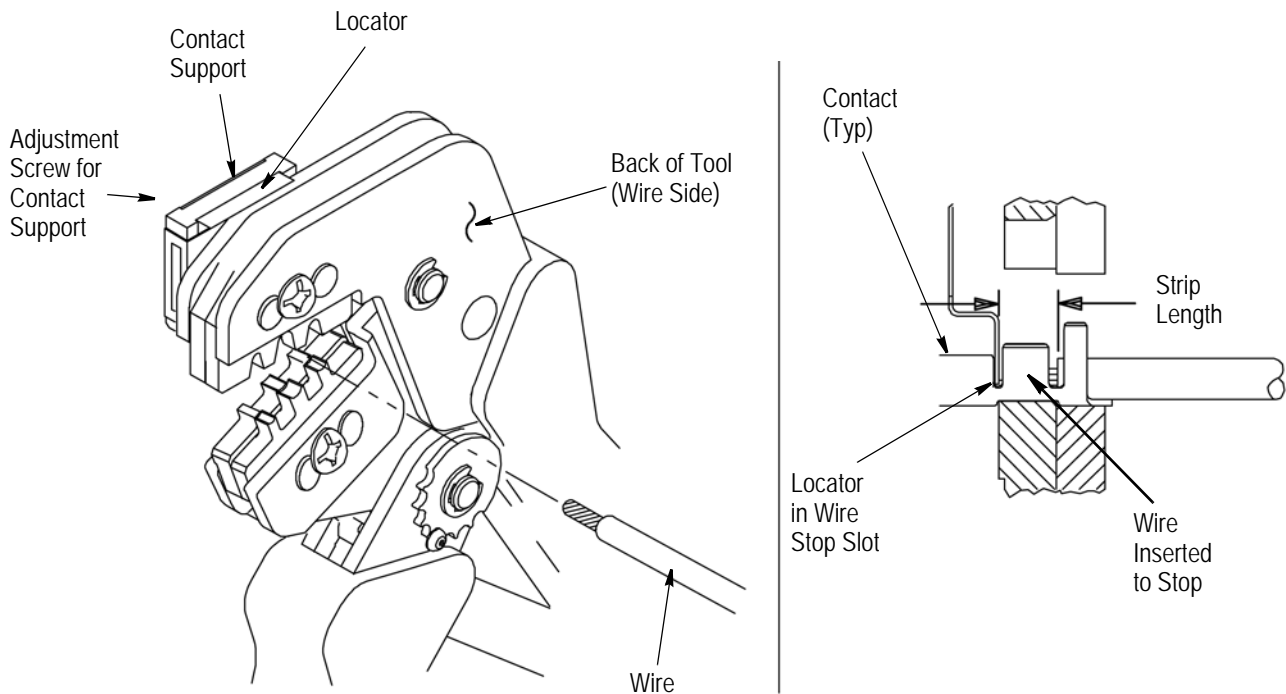

Figure 3
### 4. CONTACT SUPPORT ADJUSTMENT (Figure 3)
the length indicated in Figure 1, taking care not to nick or cut wire strands. Select an applicable contact and identify the appropriate crimp section according to the wire size markings on the tool. Refer to Figure 3 and proceed as follows:
3. Position the contact so that the mating end of the contact is on the locator side of the tool, and so that the open "U" of the wire and insulation barrels must face the top of the tool. Place the contact up into the nest so that the movable locator drops into the slot in the contact. Refer to Figure 3. Butt the front end of the wire barrel against the movable locator.
5. Insert stripped wire into contact insulation and wire barrels until it is butted against the wire stop, as shown in Figure 3.
**NOTE**  *The crimped contact may stick in the crimping area, but the contact can be easily removed by pushing downward on the top of the locator (see Figure 3).*